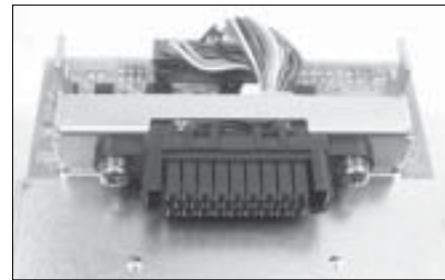

Figure 4
- i. Secure the wire harness on the new bracket. Make sure to match up the cut corners on the receptacle with the new bracket for proper fit and plug the harness into the CPU board (Figure 4).